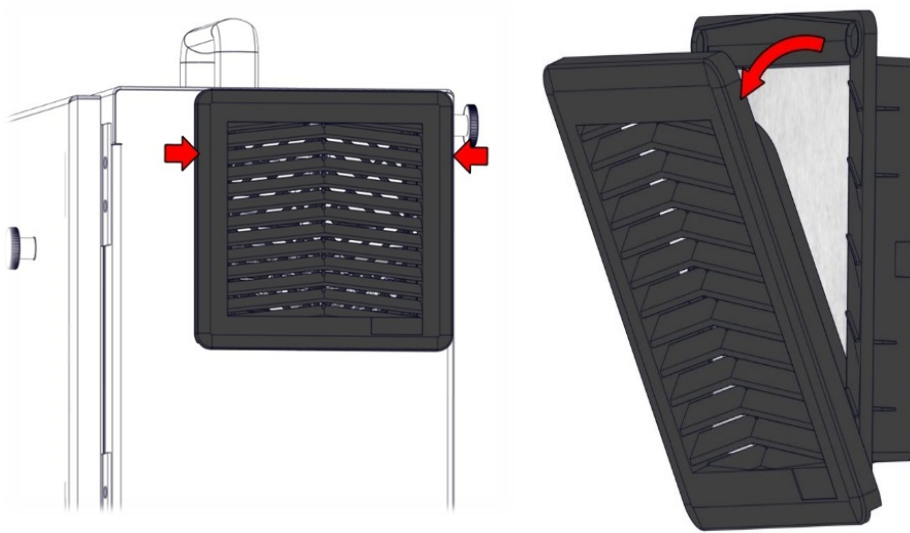

Figure 3.7. Vymeňte filtre riadiacej skrinky.
1. Gently remove the outer plastic frame by pulling where the red arrows are, as shown in the images below in figure 3.7. Rám sa nakláňa smerom von.